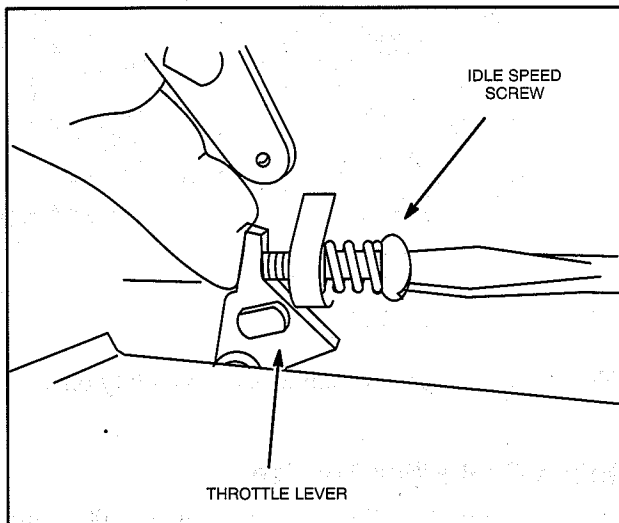

Fig. 122 - Adjusting Idle Speed
4. Hold throttle lever against idle speed screw and temporarily adjust idle (Fig. 122) to RPM shown below.